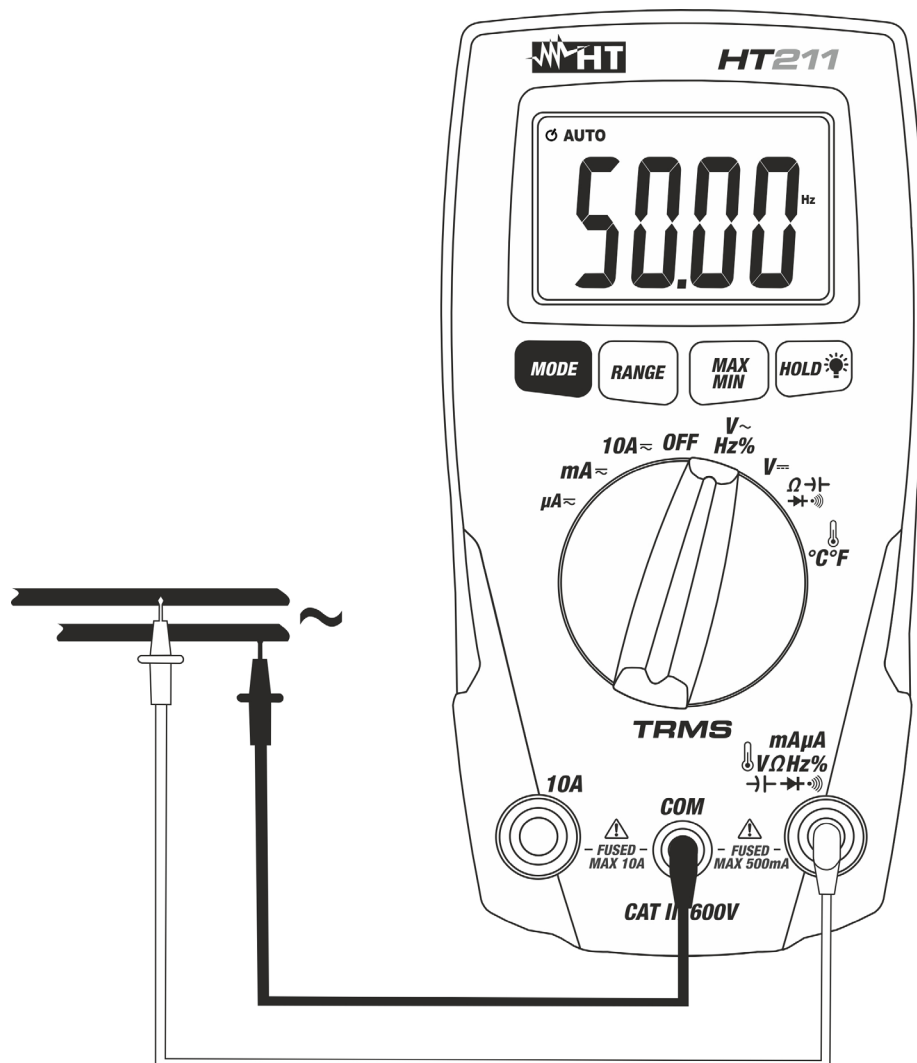

Fig. 4: Using the instrument for Frequency and Duty Cycle measurements
4. Connect the test leads to the circuit under test (see Fig. 4). The frequency value is displayed